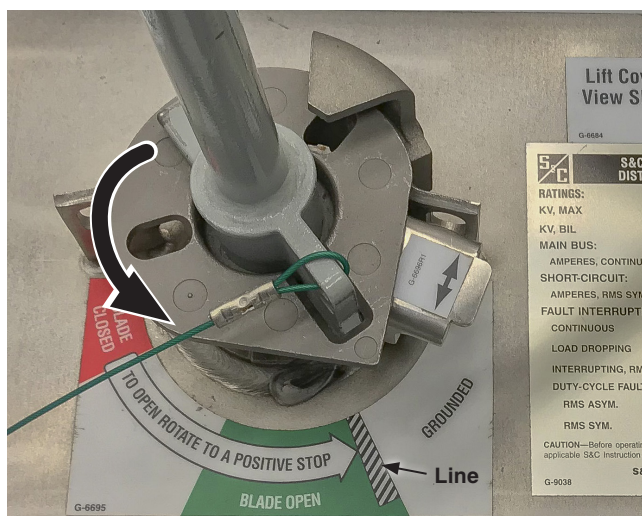
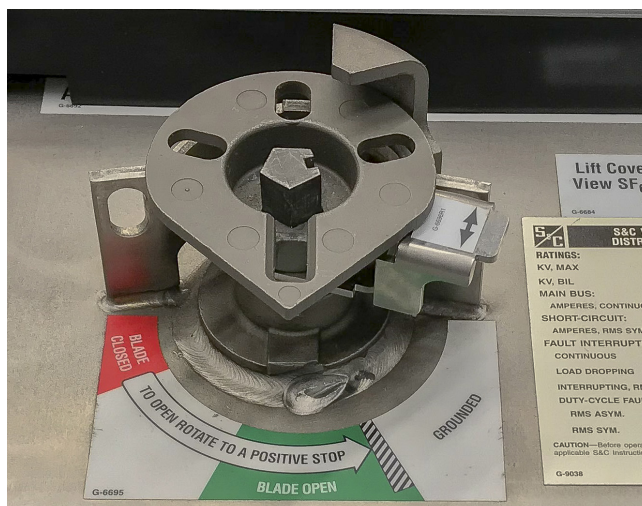

Figure 13. Rotate all the way to the line on the label.
Figure 14. The fault interrupter in the Open position.
- STEP 6.** When operating from the **Closed** to **Open** position, the operating handle must be rotated all the way to the line, as shown on the label, to recharge the mechanism. See Figure 13. The operating handle cannot be removed until the mechanism is fully charged. Figure 14 shows the fault interrupter in the **Open** position.